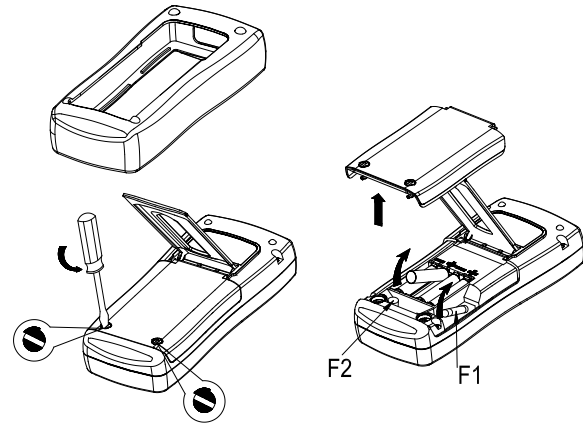

Figure 22 Replacing batteries and fuses
**Step 2:** Remove the protector as shown in Figure 22. With a standard blade hand screwdriver, turn each battery door screw a quarter counterclockwise to remove the battery door.